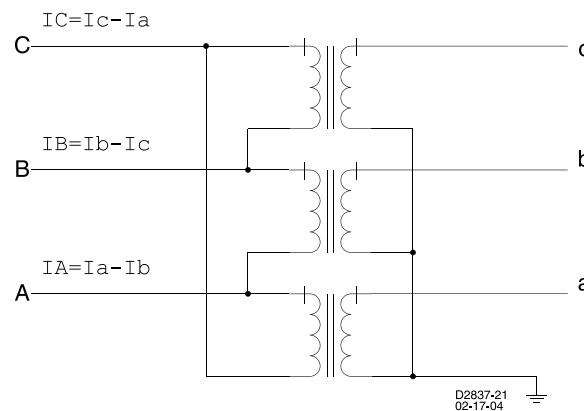
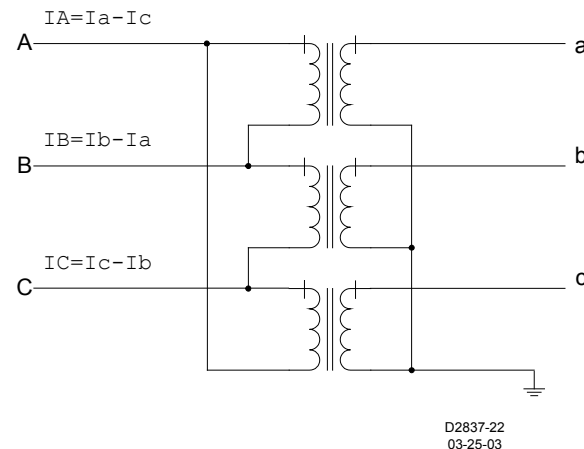

Figure 59-4. DAB Delta
Figure 59-5. DAC Delta
See Figure 59-4 and Figure 59-5. For each input circuit, a setting is provided to enter the transformer connections associated with that input.
**Delta Transformer Windings.** The transformer connection for a CT input circuit that is connected to a delta winding could be classified as one of two delta connections: Delta IA-IB (DAB) or Delta IA-IC (DAC). A delta configuration is defined by the currents that flow in the primary phases connected to the delta. The wye winding phase connections are used as the point of reference since the current that flows in the wye winding is the same as the current in the wye side primary phases. Figure 59-4 shows an example of a transformer with a DAB connection. Figure 59-5 shows an example of the same transformer with the phases reconnected to provide a DAC connection. If there is no wye winding to use as reference, as is the case with a delta/delta transformer, the definition of the delta configuration is not important.